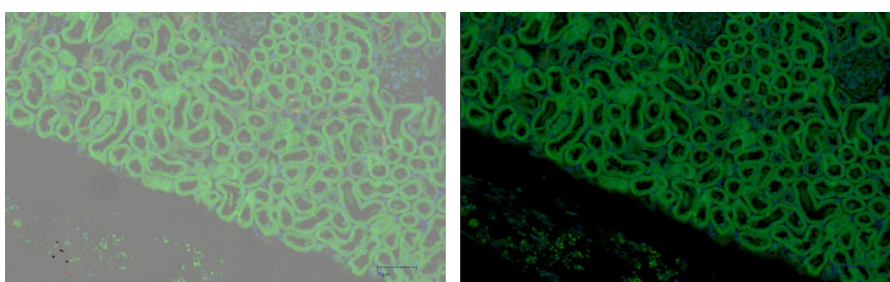

Figure 5.12: *Select white (left) and black (right) as pseudo color for brightfield image*
- If **white** is selected, a original image will be merged to the multi-channel image (see Fig. 5.12 left).
- If **black** is selected, the multi-channel image will exclude the image from the selected channel (see Fig. 5.12 right).